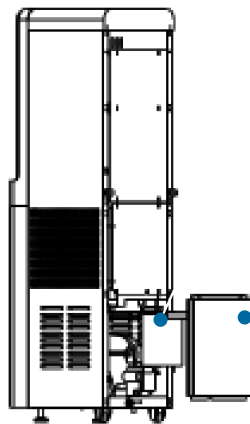

Figure 7 · Loosen the rear cover and pull out the bottom tank
3. Grasp the handle of the lower tank and pull it slowly towards you. Do not disconnect the tubing and the connectors. Pour the remaining water out of the tank by tilting it (Figure 7).